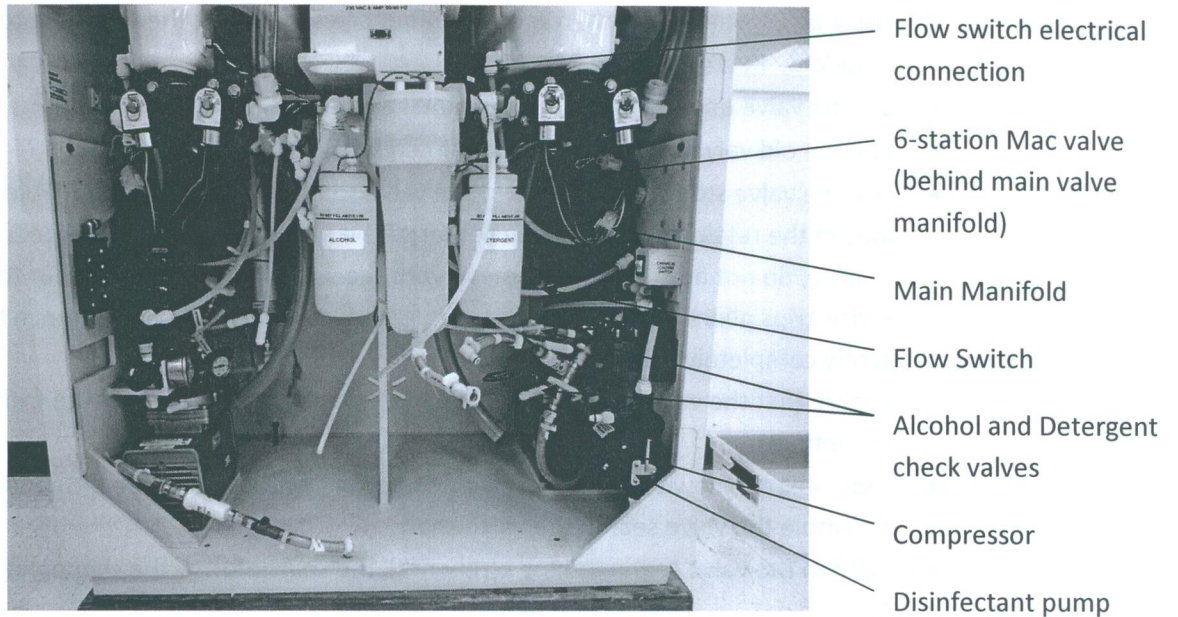

Fig 12
- Disconnect the 3/8" air line at the B side 6 station Mac valve manifold. Refer to Figure 12.
- Disconnect the B side flow switch electrical connector. Refer to figure 12.